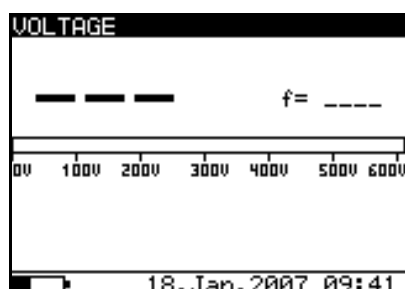

Fig. 13: Initial screen of voltage measure
2. Select with arrow keys ▼ or ▲ the item "VOLTAGE" on main menu and confirm with **SELECT** key. The screen of Fig. 13 is shown by the meter